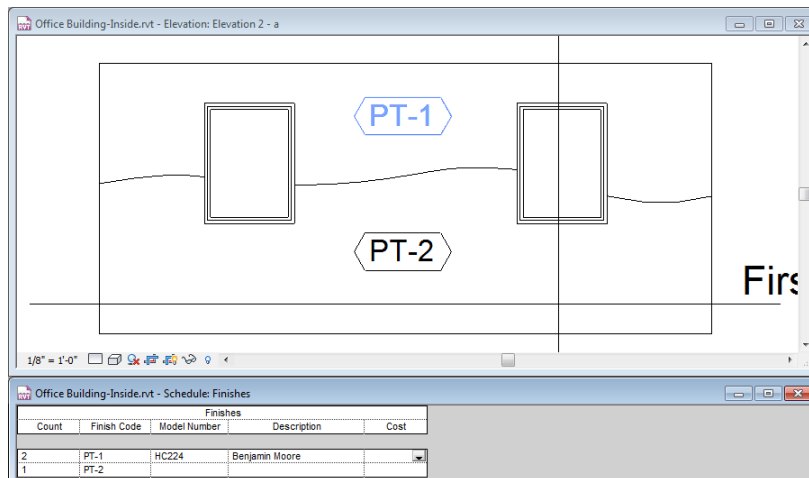

Figure 17 – Add Symbols and edit the values onscreen
- ✓ In the “Note Block Properties” dialog, add all the fields. On the Sorting/Grouping tab, you can uncheck the “Itemize every instance” checkbox and you will end up with only one entry for each unique value. For example, if you want P-1, P-2 and P-3 to each be listed only once, uncheck this box. Further, setting it up this way allows you to easily edit the other fields associated with P-1 directly in the Schedule rather than having to edit them individually in the project views (see Figure 17).